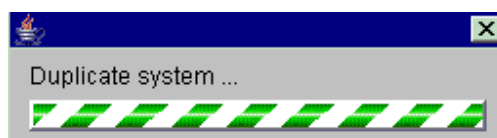

Figure 131 : Duplicate system bar graph
- A *Duplicate system* bar graph (Figure 131) indicates that the system is being duplicated; *System_S* is copied with the *System_S_copie* name in the relevant project